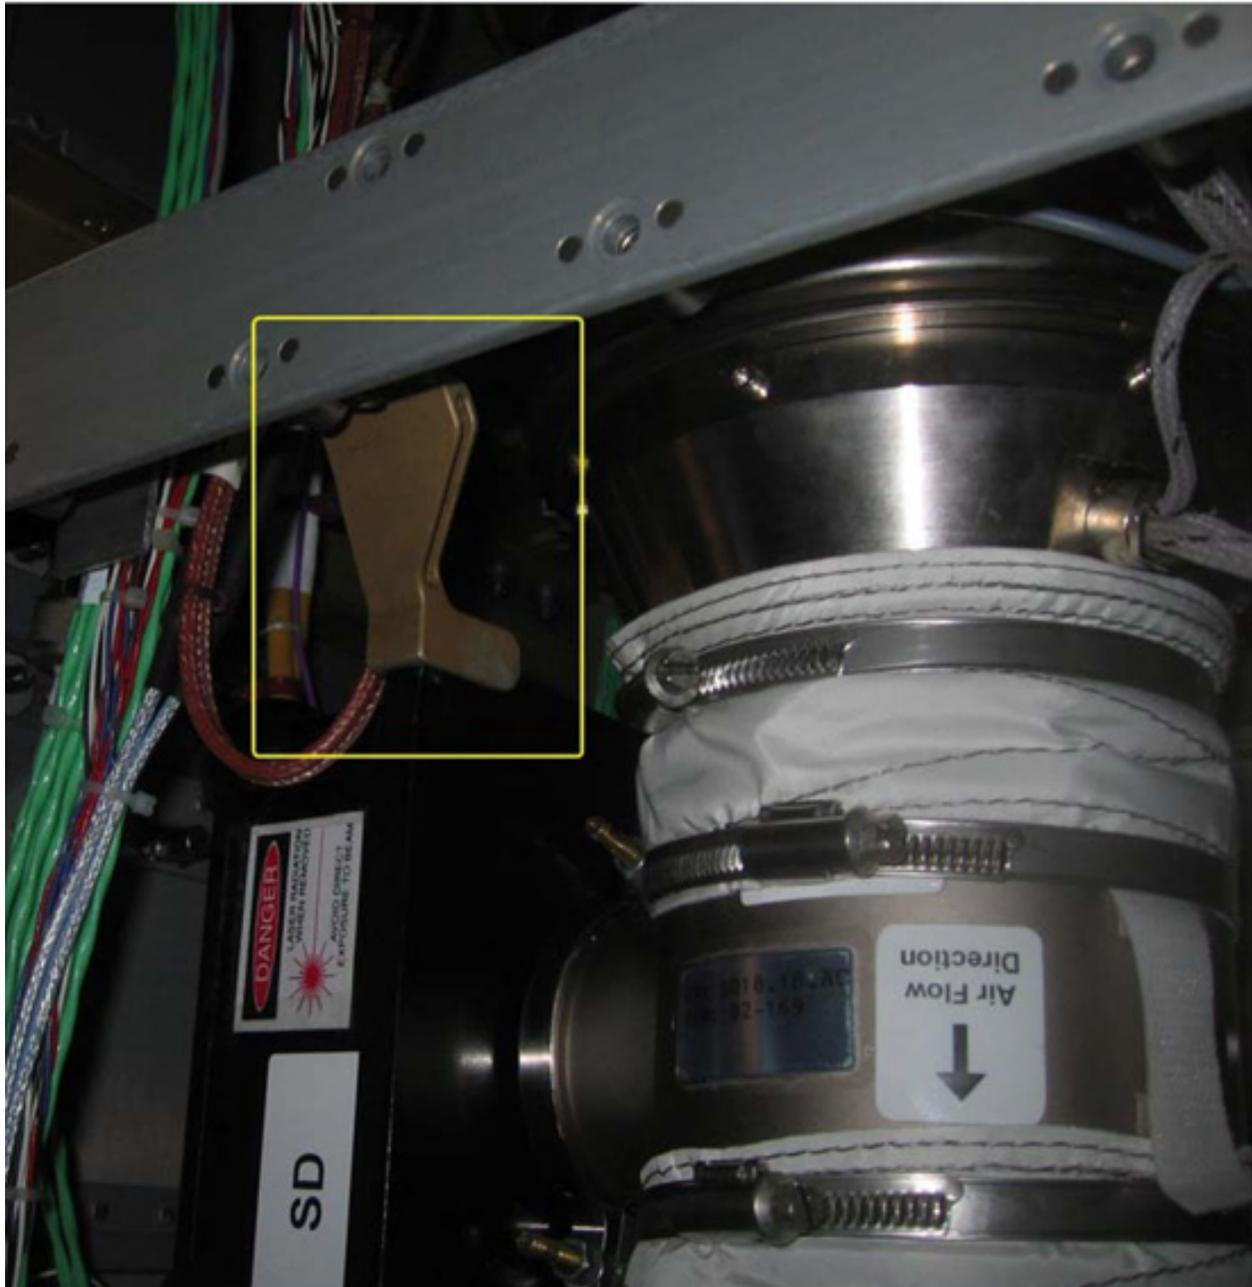

Figure 5. SD mechanical support - High-lighted
- 5.4 Rotate the SD and T-junction assembly in its mechanical support, (refer to Figure 5) (Air Flow Direction label must be visible, and label must point towards the AAA Heat Exchanger)